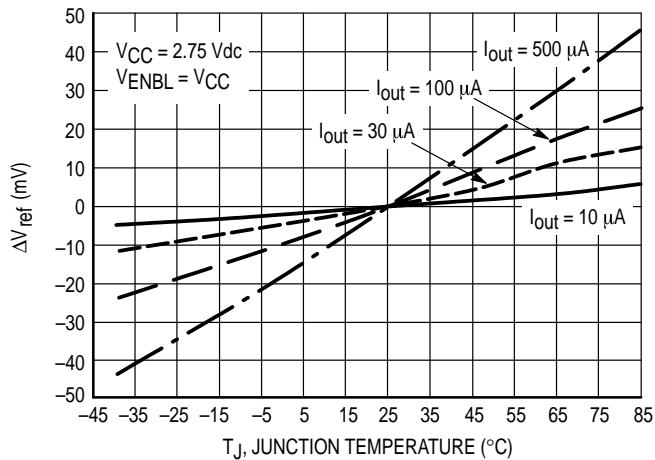

Figure 2. ΔV_{ref} versus T_J @ I_{out}
- Step 4: Choose I_{out} keeping in mind that too large an I_{out} can impair MDC5000 $\Delta V_{ref}/\Delta T_J$ performance (Figure 2) but too large an R_6 can cause I_{DGO} & I_{GSO} to bias on the FET.